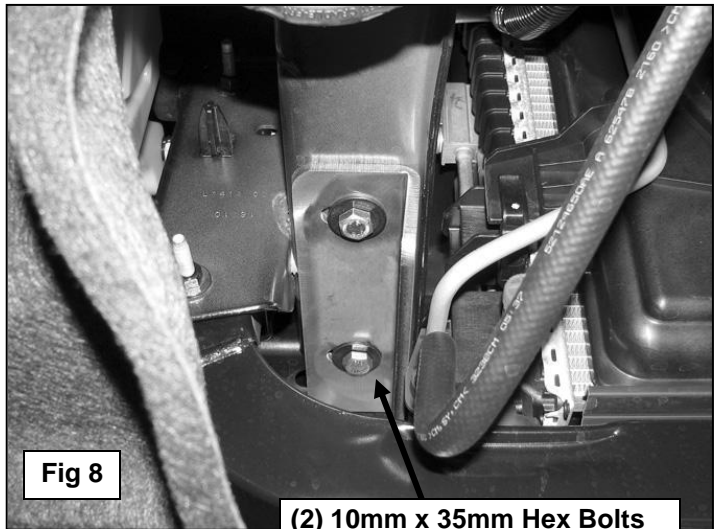

Fig 8
3. Select the driver side Frame Mounting Bracket. Line up the (2) slots in the bracket with the (2) threaded holes in the bottom of the frame channel, **(Figure 7)**. Bolt the Bracket to the frame channel with (2) 10mm x 35mm Hex Bolts, (2) 10mm Flat Washers and (2) 10mm Lock Washers, **(Figure 8)**. Do not tighten hardware at this time. Repeat this step for passenger side Frame Bracket installation.